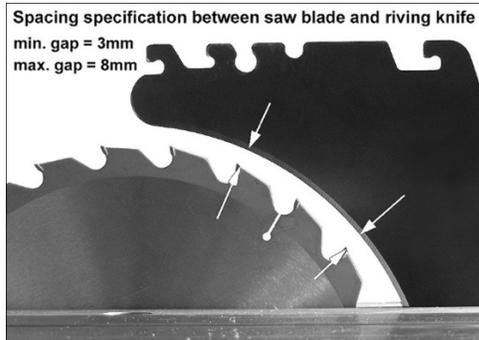

Figure 8-9
The gap between saw blade and riving knife must be between 3mm (0.12in.) and 8mm (0.32in.). See Figure 8-9.
3. Tighten screws (C).
4. Reinsert riving knife; engage lever (A) and check that saw blade/knife gap is between 3-8mm (Figure 8-9).